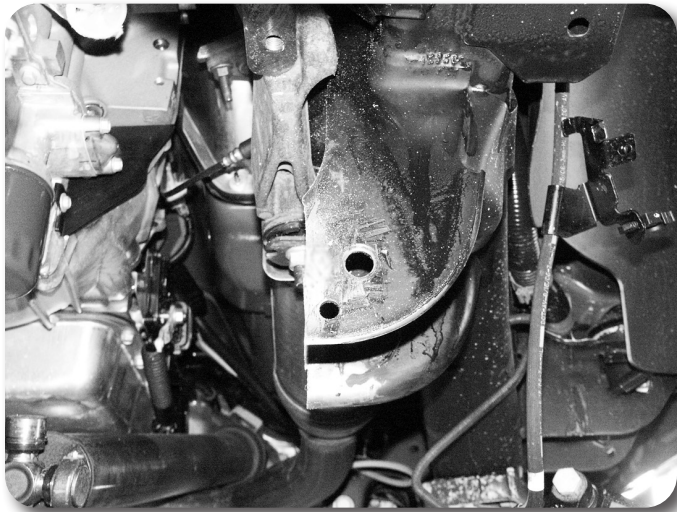

Figure 15
26. With the vertical cuts complete, cut the top portion of the pocket by connecting the two cuts Figure 15.